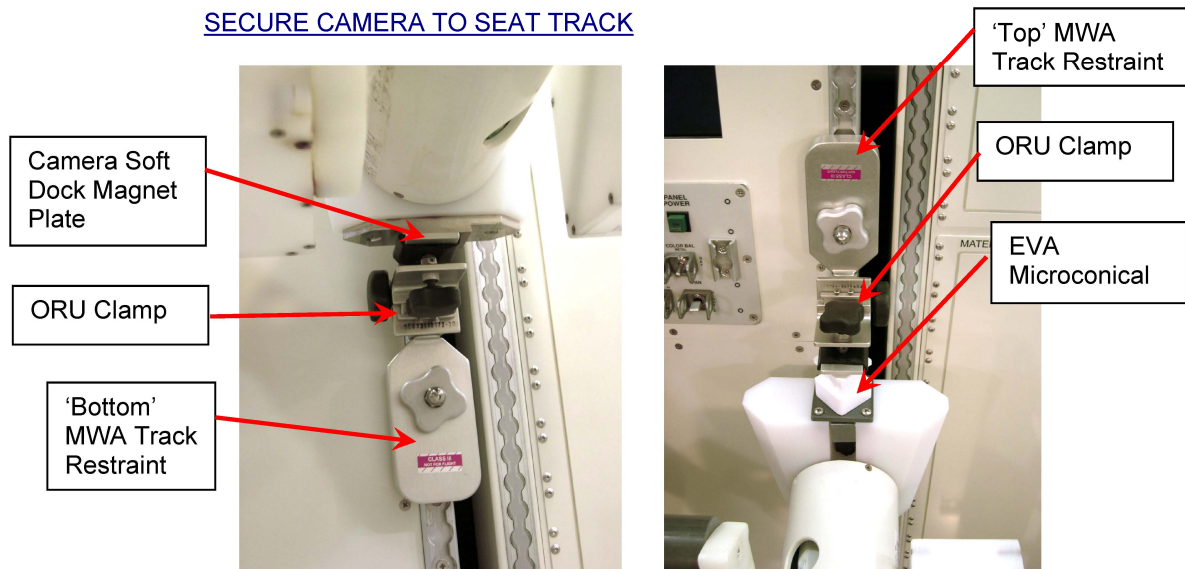

Figure 1: MWA Track Restraints with ORU Clamps
2. Install 'bottom' MWA Track Restraint with ORU Clamp onto Rack seat track (reference A.2.6 MAINTENANCE WORK AREA (MWA) INSTALLATION) as shown in Figures 1 and 2.
4. Place Camera Soft Dock Magnet Plate onto 'bottom' MWA Track Restraint with ORU Clamp and secure Camera using 'top' MWA Track Restraint with ORU Clamp as shown in Figures 1 and 2.